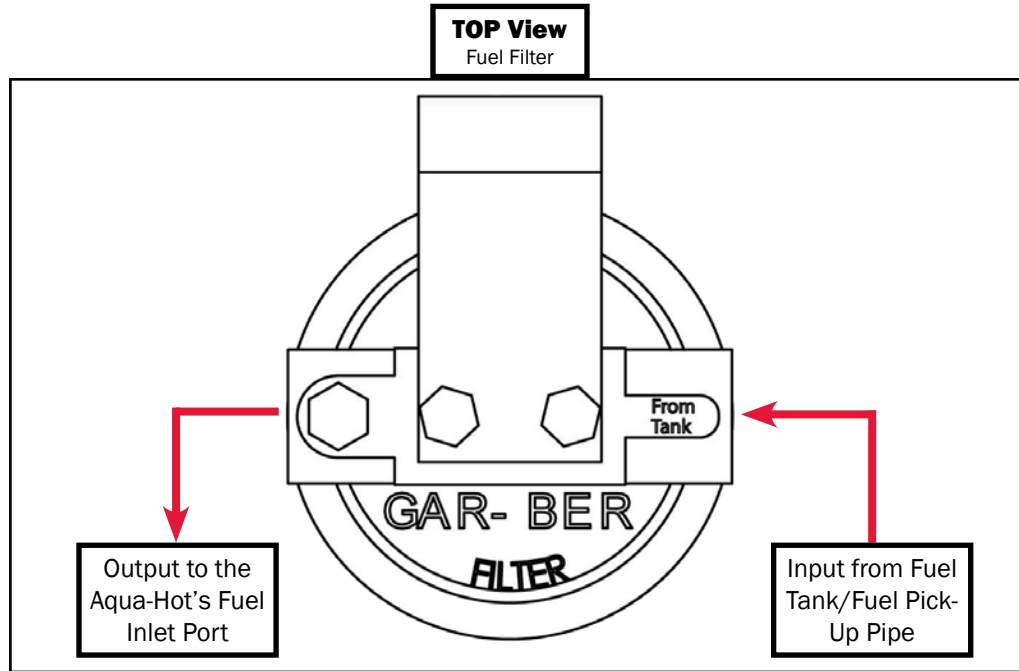

Figure 46
- Install and tighten the appropriate fuel fittings onto the Aqua-Hot's fuel ports, as well as the two ports of the fuel filter. Reference Figure 46 & 47.
- Cut the fuel line at the fuel filter mounting location and connect the fuel lines as illustrated in Figure 46.
NOTE: Be sure the flow of fuel through the filter is in the correct direction as shown in Figure 46.